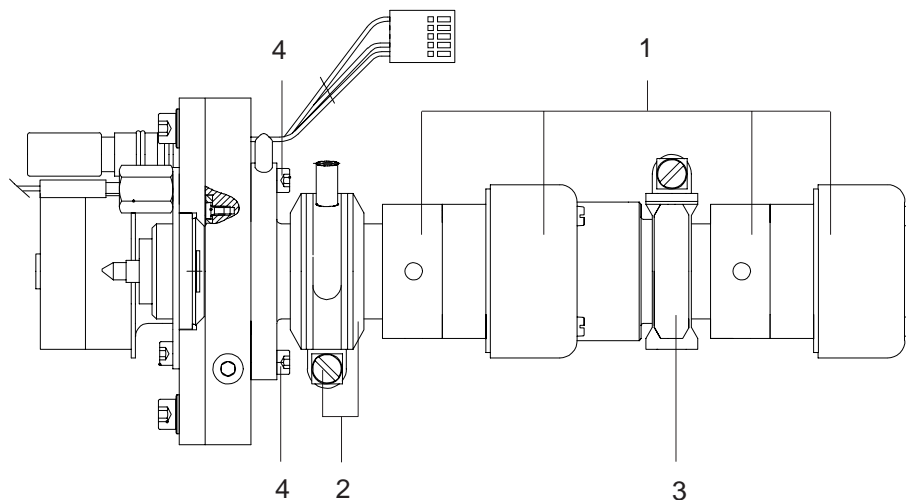

Fig. 22-2: Photometer Assembly (2 - channel photometer, side view)
- Remove the clamp (Fig. 22-2, Item 2).
- Remove the clamp (Fig. 22-2, Item 3).
- Remove the mounting screws shown in Fig. 22-2, Item 4.
- Position the cell body in place and fasten using the two mounting screws (Fig. 22-2, Item 4).